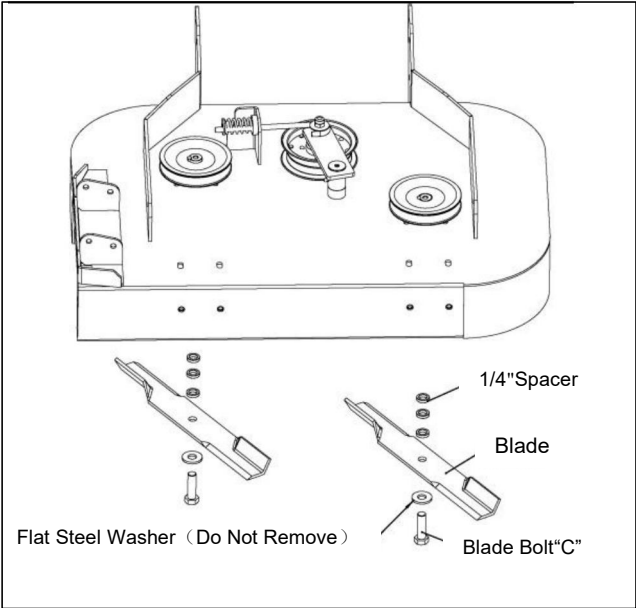
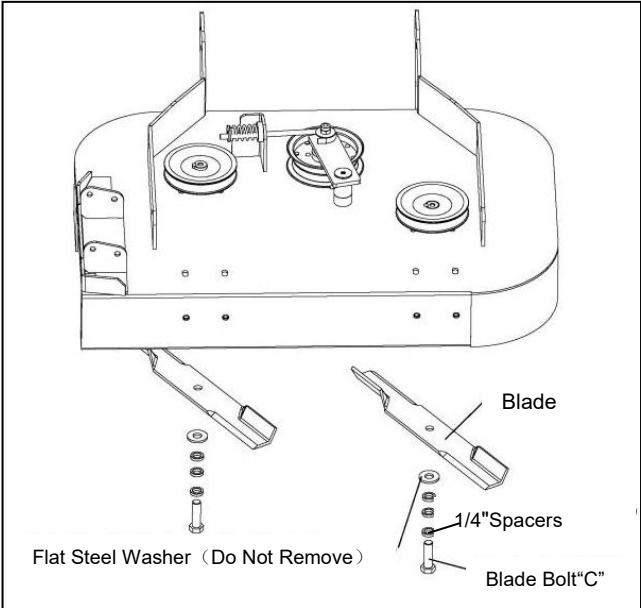

Figure 5
Figure 6
4. To raise the blades to the height desired, remove the appropriate amount of spacers from the blade bolt. Example: If the height of cut needs to be raised 1/2", move two (2) of the 1/4" spacers "B" on each blade from underneath the mower (Figure 5) to the top of the mower (Figure 6).
6. Install the blade spacers that were removed, back onto the blade bolt followed by the nut and tighten (Figure 5). **IMPORTANT:** The amount of spacers should always be the same on each blade bolt. Never put the spacers below the blade.